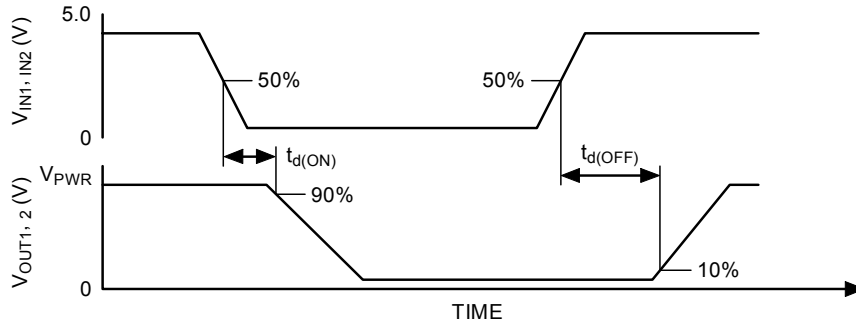

Figure 2. Output Delay Time
- Output Delay is the time duration from the midpoint of the IN1 or IN2 input signal to the 10% or 90% point (dependent on the transition direction) of the OUT1 or OUT2 signal. If the output is transitioning HIGH-to-LOW, the delay is from the midpoint of the input signal to the 90% point of the output response signal. If the output is transitioning LOW-to-HIGH, the delay is from the midpoint of the input signal to the 10% point of the output response signal. See Figure 2, page 8.